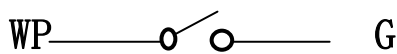
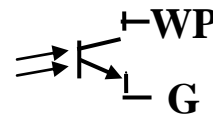

Figure 1
Figure 2
- 1) WP input terminal can use water switch or fan switch's test terminal, Please pay attention that WP is through optocoupler connected with ground (G) as (figure2) , not as (figure 1).